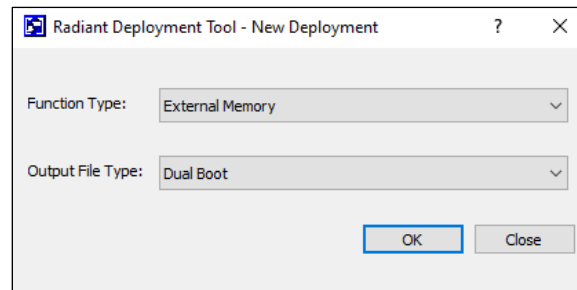

Figure 7.1. Creating New Deployment for Dual Boot File
- In the Radiant Deployment Tool window, select **External Memory** as the **Function Type** and select **Dual Boot** as the **Output File Type** (Figure 7.1).